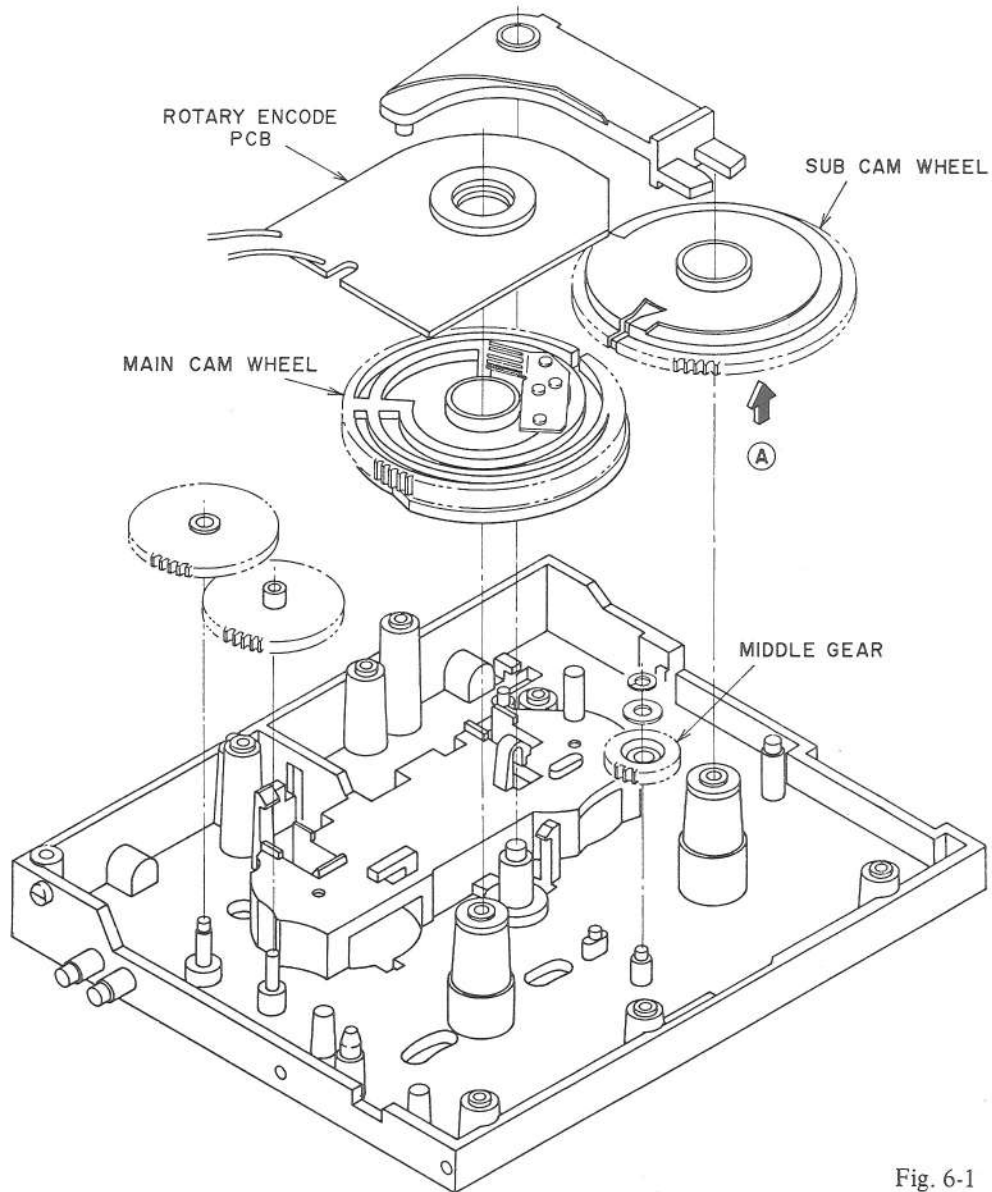
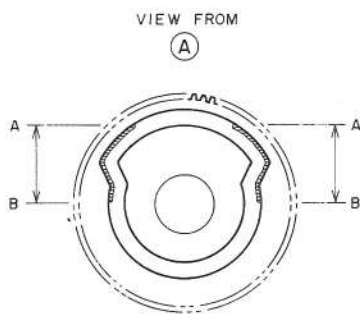
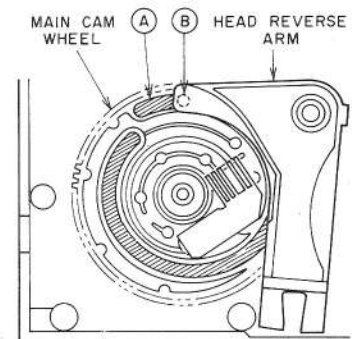

Fig. 6-1
Fig. 6-2
Fig. 6-4
- 1) Lock at SUB CAM WHEEL from direction **(A)** (Fig. 6-1) and apply grease to areas A to B (the side of the groove shaded with oblique lines) as in Fig. 6-2.
- 4) Insert the head Reverse arm pin **(B)** (see Fig. 6-1) into groove **(A)** in MAIN CAM WHEEL as in Fig. 6-4.